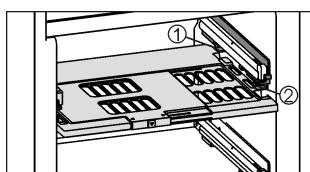

Fig. 7
- To insert the humidity control plate: Insert the cover mouldings of the plate into the rear holder *Fig. 7 (1)* from underneath and engage them in the holder *Fig. 7 (2)* at the front.